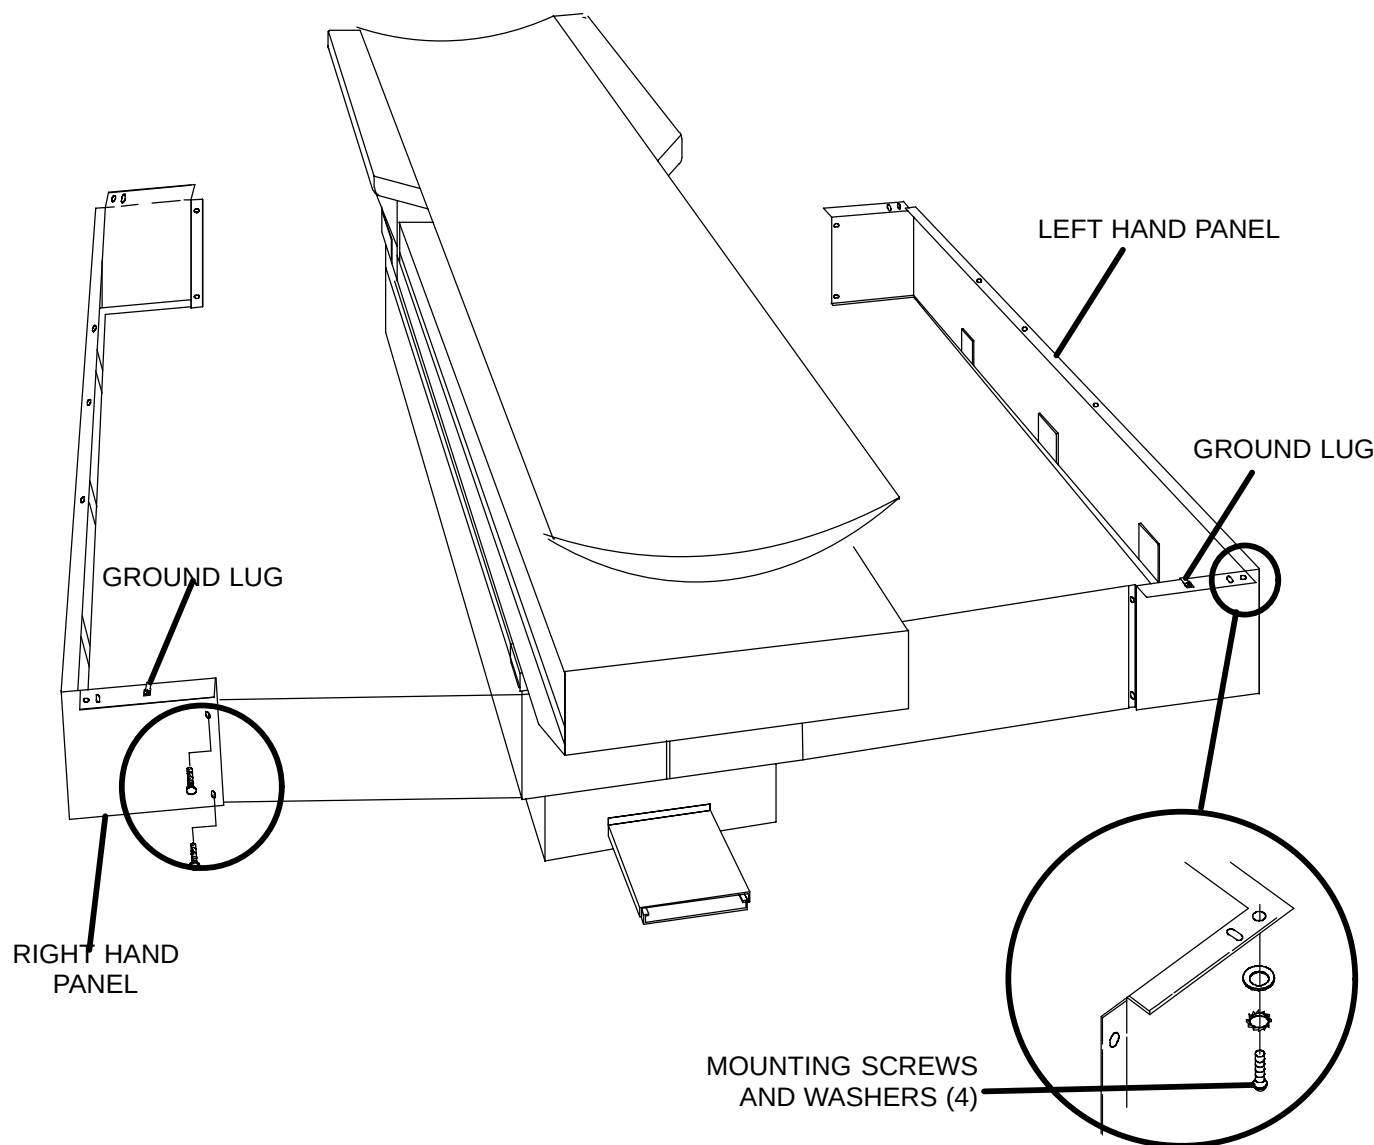

FIGURE 116 PATIENT SUPPORT TELESCOPING BASE COVERS
4. Replace the 2 screws in both the outer cover ends. Front and rear (4 total). Refer to Figure 116.
5. Replace the four phillips head screws and washers that attach the telescoping base cover panels to the subframe. Refer to Figure 116.